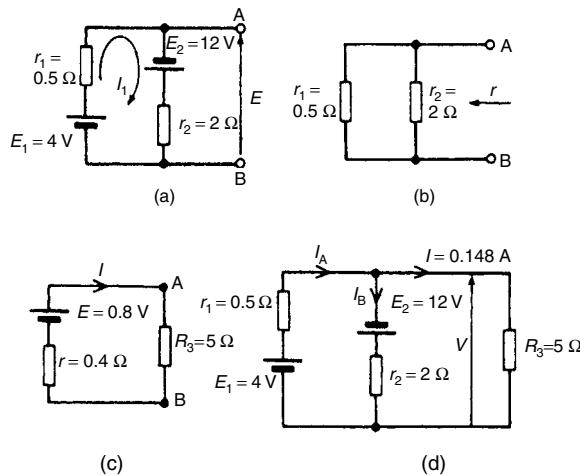

Figure 13.43
- (i) The 5Ω resistance is removed from the circuit as shown in Fig. 13.43(a)
- (iii) Removing the sources of e.m.f. gives the circuit shown in Fig. 13.43(b), from which resistance
- (iv) The equivalent Thévenin's circuit is shown in Fig. 13.43(c), from which, current
From Fig. 13.43(d),
Also from Fig. 13.43(d),
[Check, from Fig. 13.43(d), $I_A = I_B + I$, correct to 2 significant figures by Kirchhoff's current law]